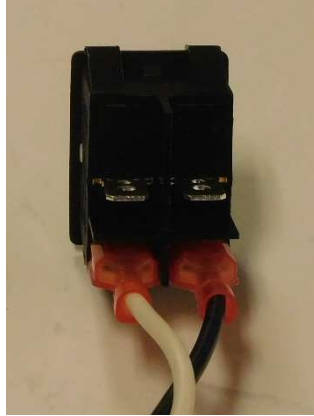

Figure 39-Installing power wires on the switch
- Starting with the switch outside the chassis, push the FASTONs on the bottom switch terminals as indicated in Figure 39. The black or white wire may be on either side of the switch, so long as they both attach to the *bottom row* of contacts.